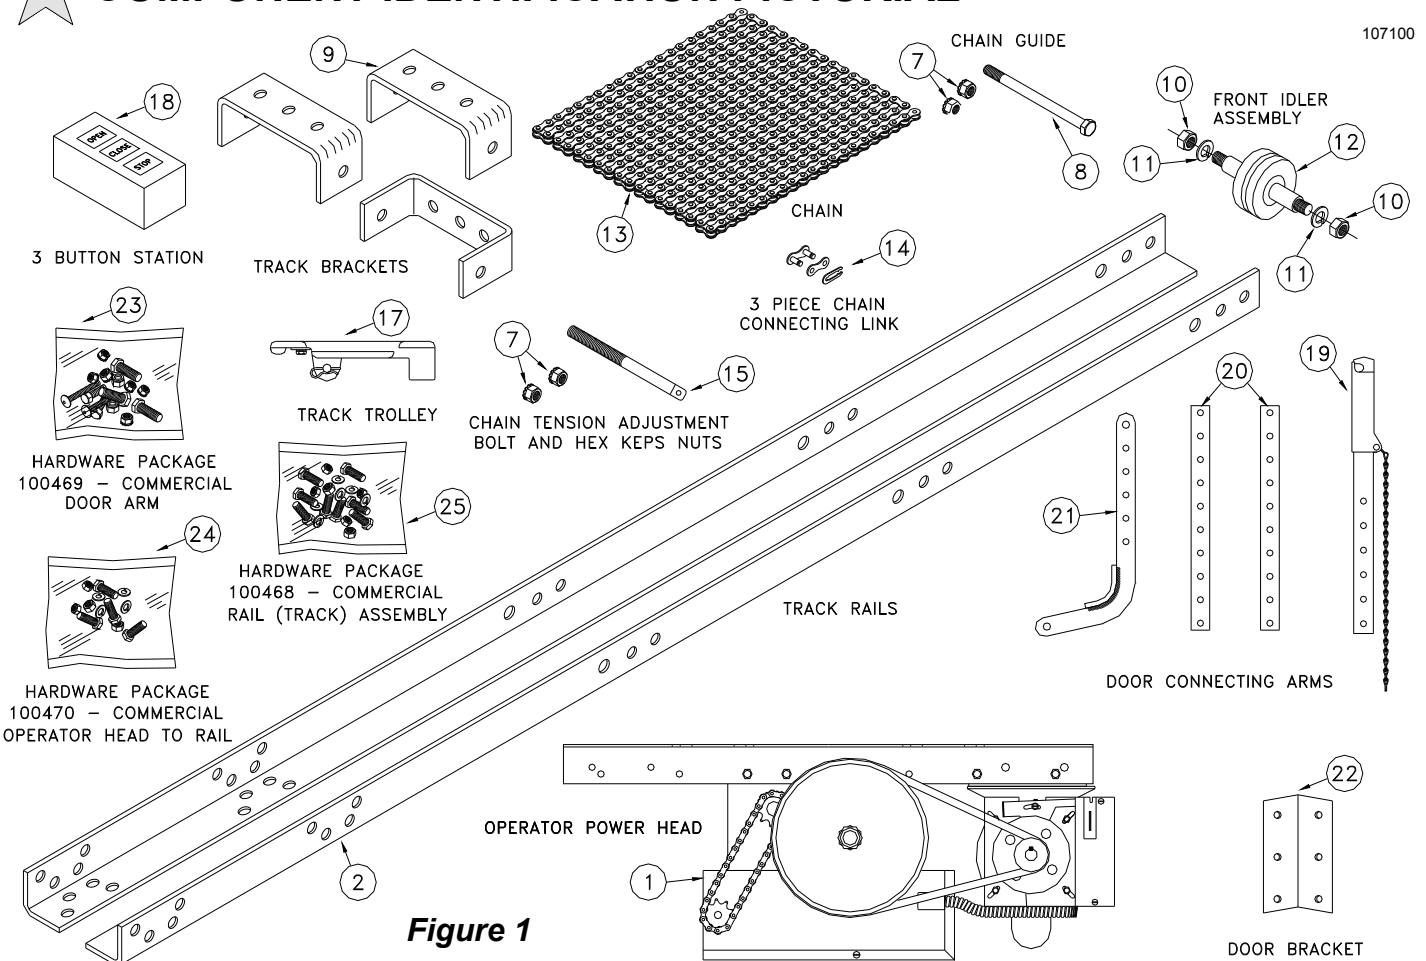
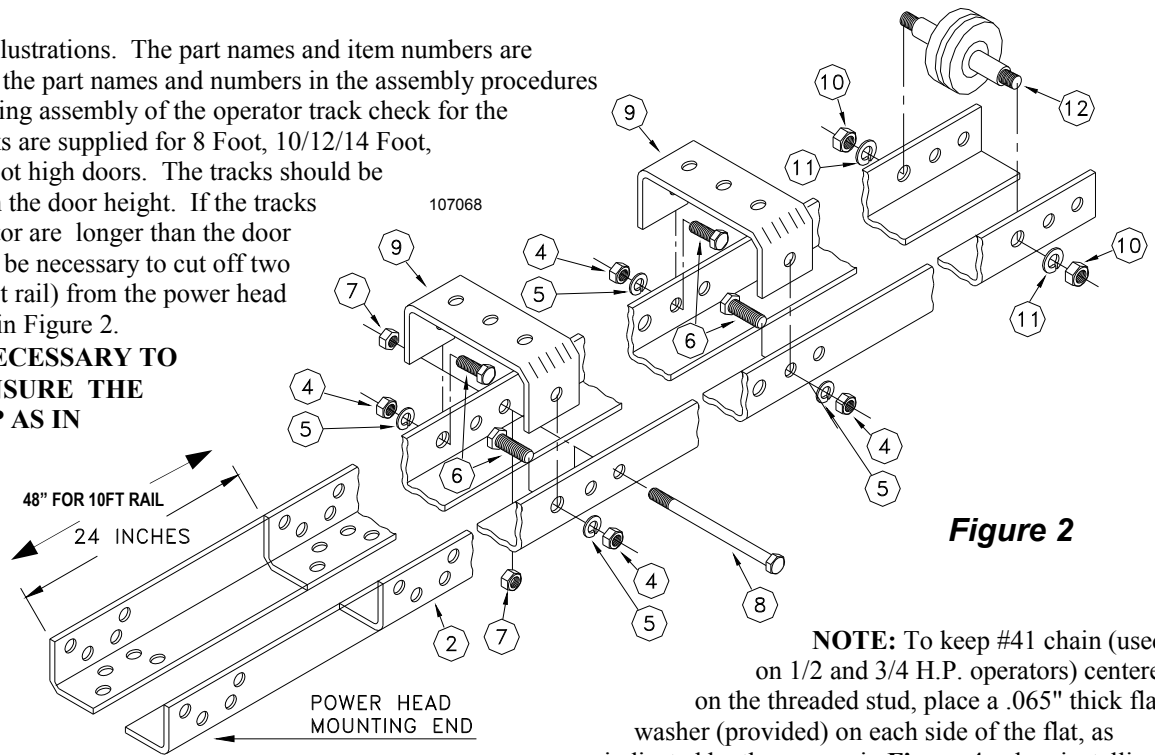
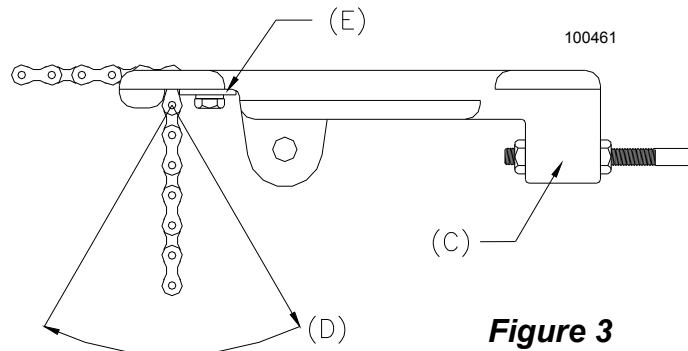

Figure 1
Figure 2
Figure 3
Refer to Figure 1 parts illustrations. The part names and item numbers are referenced identically to the part names and numbers in the assembly procedures that follow. Before starting assembly of the operator track check for the proper length. The tracks are supplied for 8 Foot, 10/12/14 Foot, 16/18 Foot and 20/22 Foot high doors. The tracks should be three (3) feet longer than the door height. If the tracks supplied with the operator are longer than the door height plus 3 feet, it will be necessary to cut off two feet (or 4 feet for 10 Foot rail) from the power head mounting end as shown in Figure 2.
CAUTION: WHEN NECESSARY TO CUT THE TRACK ENSURE THE ENDS ARE LINED UP AS IN FIGURE 2.
1) Assemble the operator track by assembling the items as shown in Figure 2.
3) Referring to Figure 1, 2 and 3 (below), slide the trolley onto the track with the chain take up bolt lug (C) toward the power head. Thread one 3/8-16 keps nut (attached star washer) onto the Chain take up bolt with the keps part (attached star washer) away from the chain attachment end. Insert the chain take up bolt threaded end through the lug hole on the trolley (C) just far enough to start a second 3/8-16 keps nut. Attach one end of the chain to the opposite end of the threaded stud using a 3-piece chain link (provided). See Figure 3.